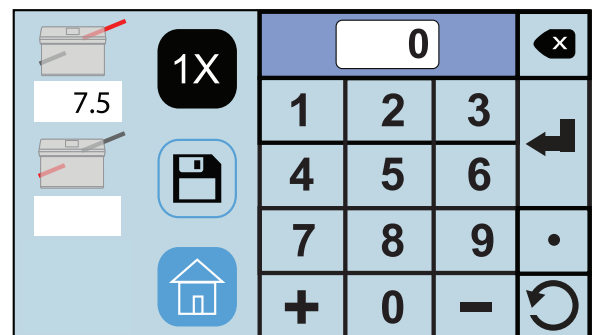

Fig. 16
Press the enter key  to enter the measurement . The white box under the icon will show the measurement entered. (Fig. 16)
2. Select the lower fold plate icon  (Fig. 16) to set the fold stop position for the second fold (the icon will flash dark gray when selected). Using the touch pad, key in the measurement for the second fold stop position, (**Note:** the minimum position is 1.49" and the max. position is 8.40".).